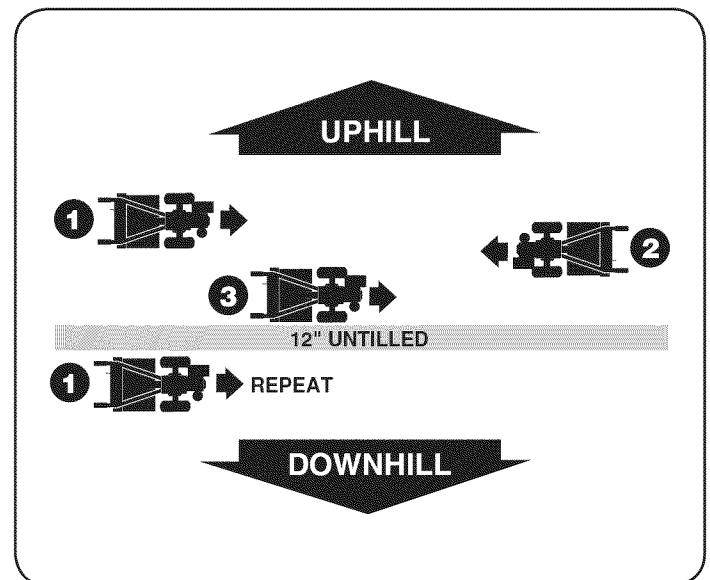

Figure 20
1. To create a terrace, start at the top of the slope and work down. Go back and forth across the first row. See Figure 20.